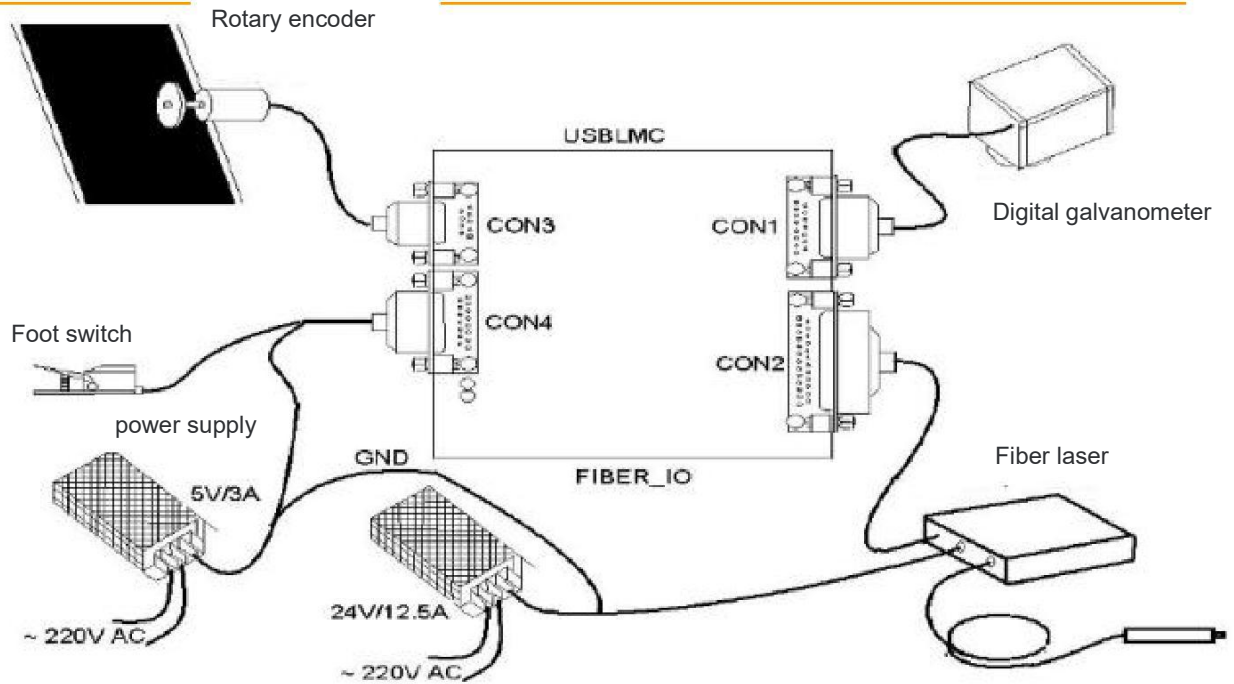

Figure 2-12 Connection diagram of IPG YLP dedicated control card
- In Figure 2-12, only the connection of the power supply, laser, and galvanometer is required.